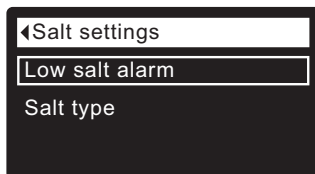

FIG. 44
3. Press the SELECT (O) button to display the Salt settings menu (See Figure 44).
7. Press the SELECT (O) button. The display will go back to the Salt settings menu (Figure 44).